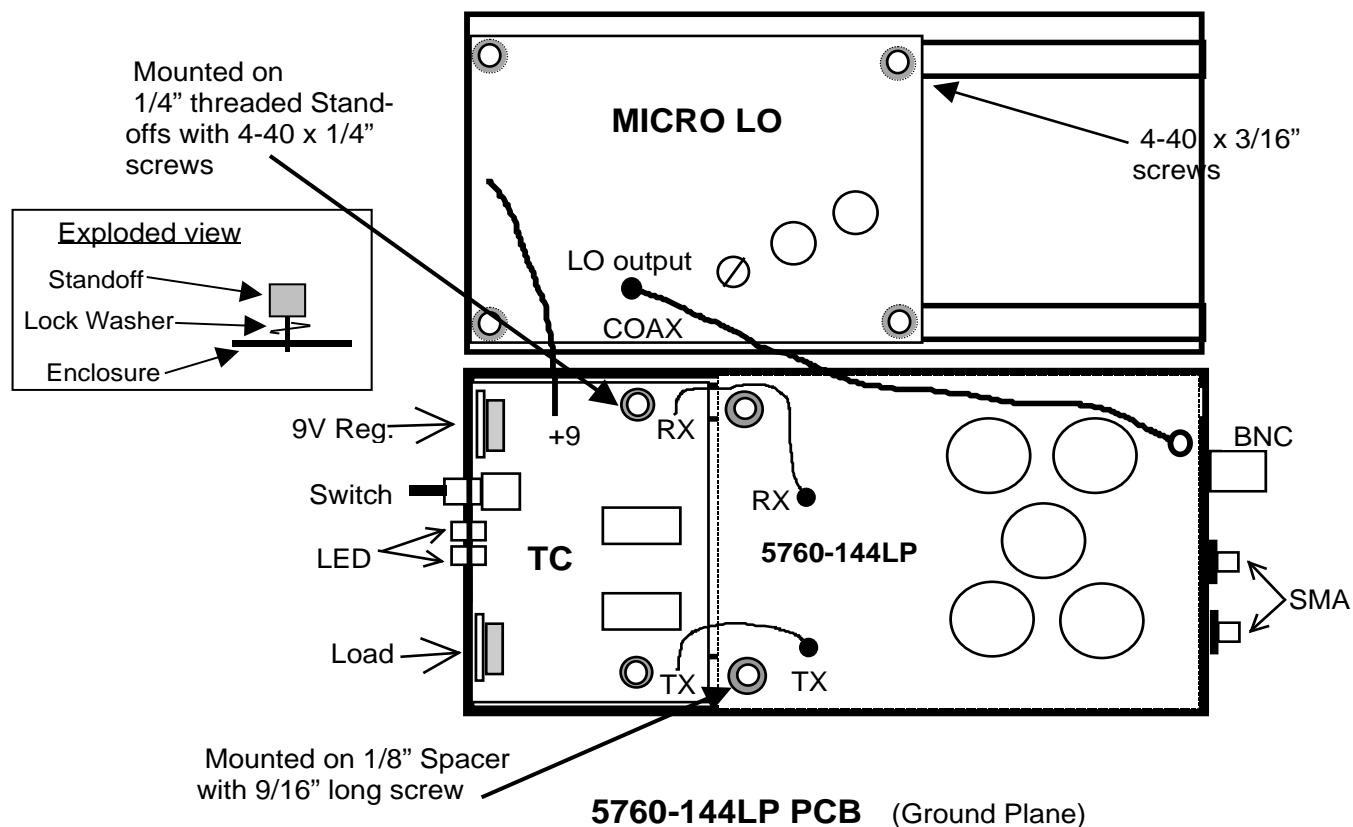

Figure 10.
6. Now that the local oscillator is complete, you should begin to assemble the TC in the enclosure Using the TC installation instructions and Figure 10 as a location guide. Install all connections except the 3 Feed through connectors to the PTT, +13.8, and AUX. Be sure to make all wire and coax connections to the TC on the topside. If you have the 3 watt version, make all connections from PA and LNA section in the transverter to their matching connections on the TC. Do not shorten any of the wires or coax for now. Connect the DC input of the MICRO LO to the +9 connection by the regulator on the TC board. Install one or both BNC connectors in the connector panel and connect them to the TC with 12" coax as you wish the transverter to be configured. Connect a 9" #24 wire to the +13.8 on the TC. This is the DC input for the transverter. Be sure of the drive level that the TC is configured for and review the Operation instructions of the TC before going on to Step #7.
If you have the complete kit, assemble the transverter using the supplied hardware per Figure 10. The MICRO LO is mounted to the opposite half of the enclosure as the transverter. Please verify the orientation of the MICRO LO before attaching it to enclosure. Remove the 4-40 nuts from the 9/16" screws and with the 1/8" spacer and install the transverter in the enclosure. Only start the 4-40 screws. Then start the two panel screws and when the alignment is correct, tighten all four. You may now shorten all wires and coax to clean up the "Rats Nest". When you become satisfied with the length of the wires, you may want to bundle all of the control wires and coaxes together to make a neat appearance. It is not necessary, but it will contain the wires to make closing the enclosure easier. Keep the MICRO LO wires and coax separate from the rest of the transverter wires.